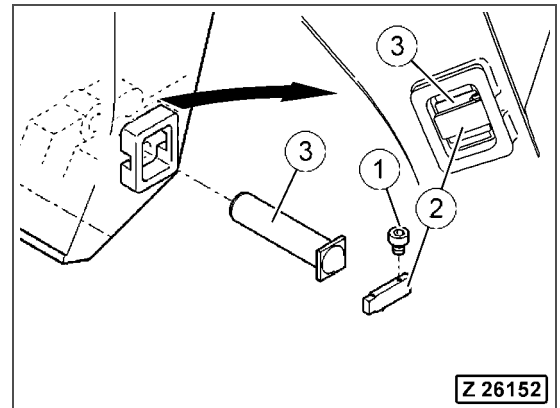

Fig. 5-133
4. Insert the pin (Fig. 5-133, Pos. 3).
5. Fix the pin with the plate (Fig. 5-133, Pos. 2).
6. Secure the plate with the bolt (Fig. 5-133, Pos. 1).